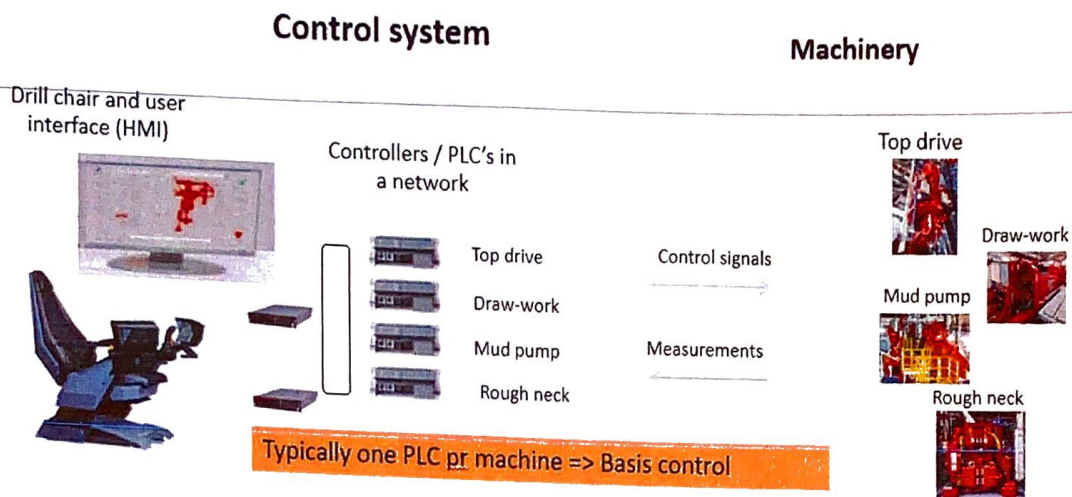

Figure 1 Drilling control system
Figure 1 shows a schematic of a drilling topside control system. In the figure, PLC stands for programmable logic controller.
**Q1.1.** Describe how the drilling control system shown in Figure 1 works.
**Q1.3.** The automation level is divided into three ones: manual, semi-autonomous and autonomous level. Please describe the differences among them. For the system given in Figure 1, does it belong to
- (A) Manual level?
- (B) Semi-autonomous level?
- (C) Autonomous level?